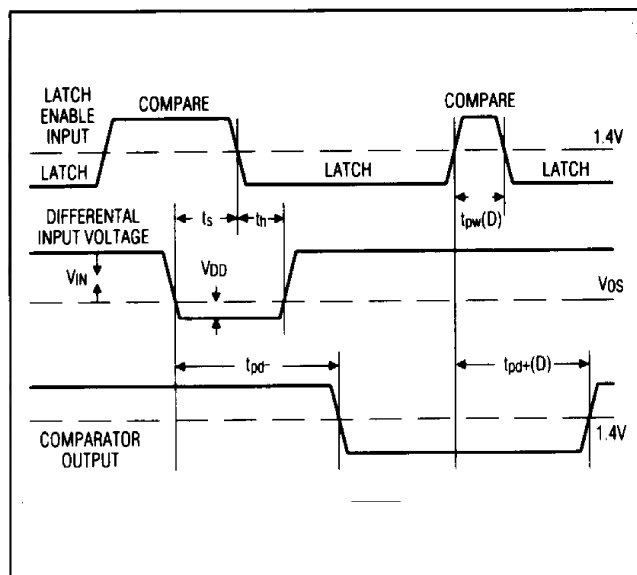

Figure 2. MAX900/902/903 Timing Diagram
**Note 5:** Guaranteed by design. Times are for 100mV step inputs (see propagation delay characteristics in Figures 2 and 3).
**Note 7:** See Timing Diagram (Figure 2). Owing to the difficult and critical nature of switching measurements involving the latch, these parameters cannot be tested in a production environment. Typical specifications listed are taken from measurements using a high-speed test-jig.